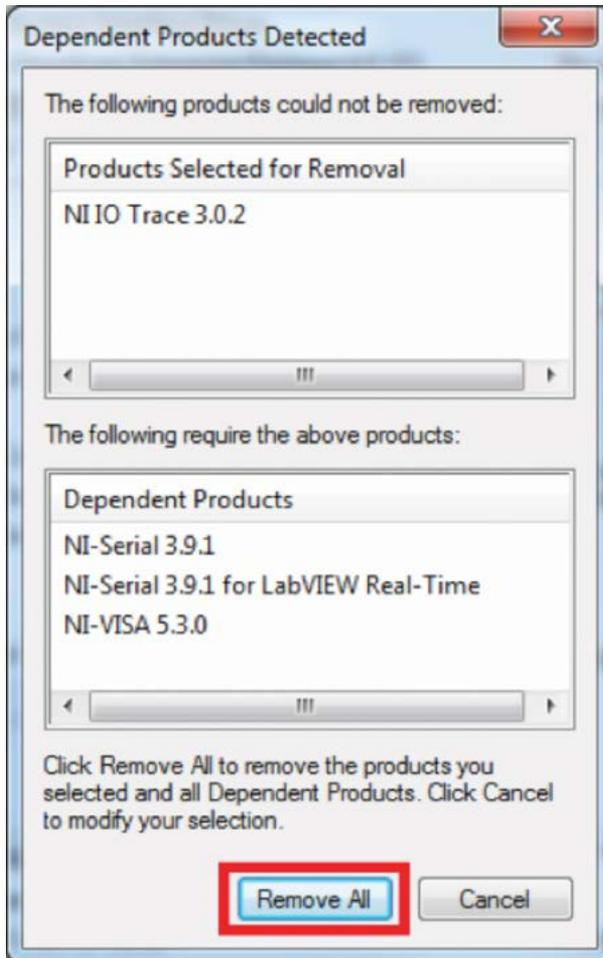

Figure 29: Remove All Dependent Components
- Some components will have dependent components. An additional dialogue may appear as an alert. Select "Remove All" as shown in **Figure 29**.